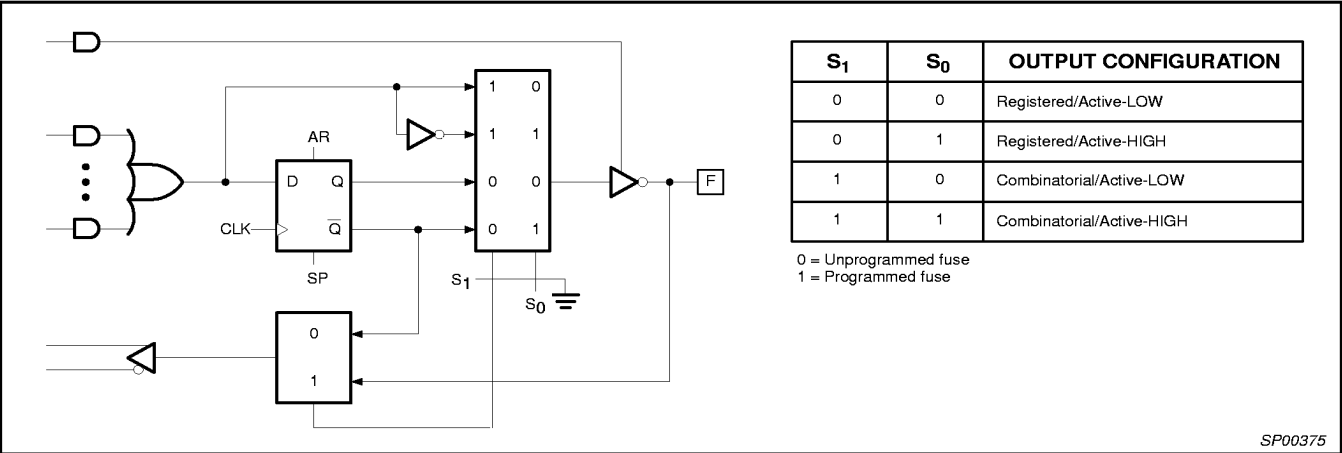

Figure 2. Output Macro Cell Logic Diagram
registered output or combinatorial I/O, Active-HIGH or Active-LOW (see Figure 2). The configuration choice is made according to the user's design specification and corresponding programming of the configuration bits S_0 – S_1 . Multiplexer controls are connected to ground (0) through a programmable fuse link, selecting the "0" path through the multiplexer. Programming the fuse disconnects the control line from GND and it floats to V_{CC} (1), selecting the "1" path.